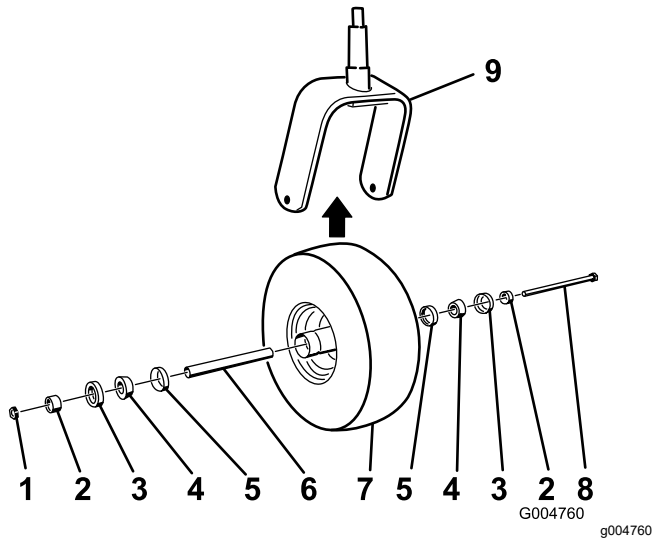

Figure 43
2. Remove the locknut from the bolt (Figure 43).
5. Assemble the caster wheel by pushing the cone bearings and seals, packed with grease, into the wheel hub, positioned as shown in Figure 43.